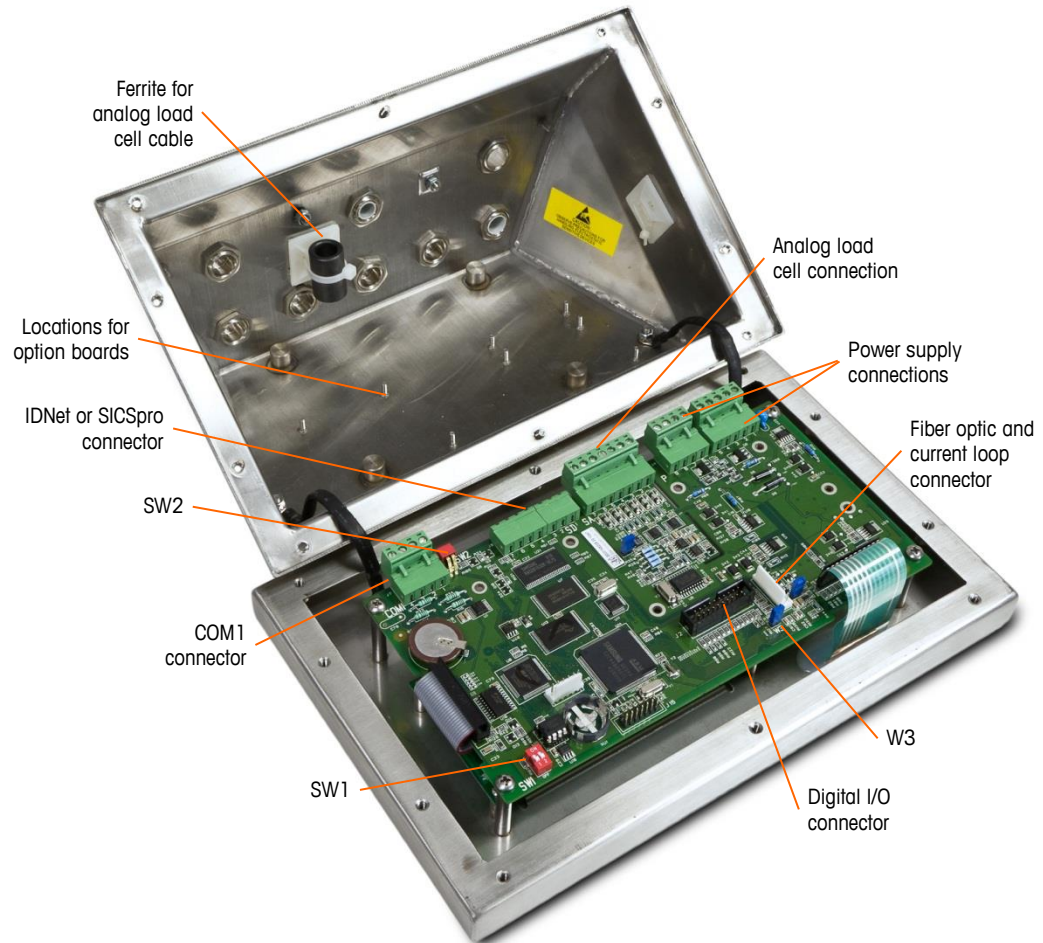
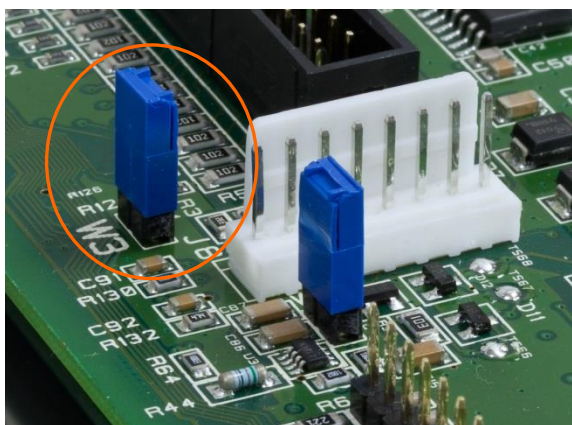

Figure A-18: Harsh Enclosure Connector Locations
Figure A-25: W3 Jumper on IND560x Analog Main Board
Once the IND560x terminal harsh enclosure is open, connections can be made to the terminal strips on the main board as shown in Figure A-18.
When using an analog load cell version of the IND560x, load cell connections are made to the connector located on the main board as shown in Figure A-18 and Figure A-19.
When using an IDNet version of the IND560x terminal, the cable connection from the base is made to the J1 and J9 connectors (also identified as the “SD” connection blocks) on the main board as shown in Figure A-18, Figure A-19 and Figure A-22.
- **IMPORTANT:** The IND560x-PAB option will only work with a specific revision of the IND560x analog main board. The correct version of analog main board can be identified by the presence of the W3 jumper, located as shown in Figure A-18, and indicated in Figure A-25. If the W3 jumper is not present on the main board, then that main board is **not** compatible with the IND560x-PAB.